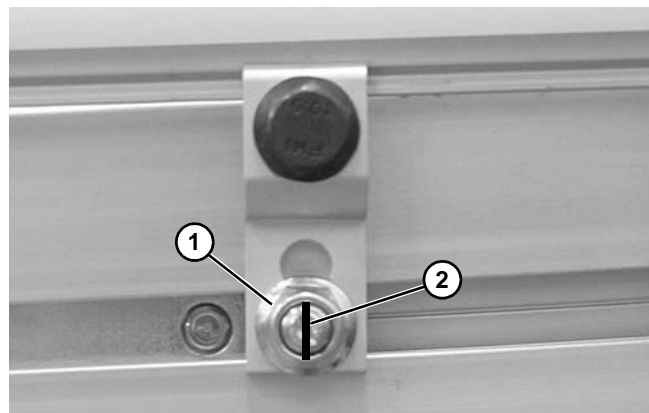

Figure 86
- Tighten nuts (**Figure 86, item 1**).
Be certain that slot (Figure 86, item 2) is close to vertical when finished tightening nut.